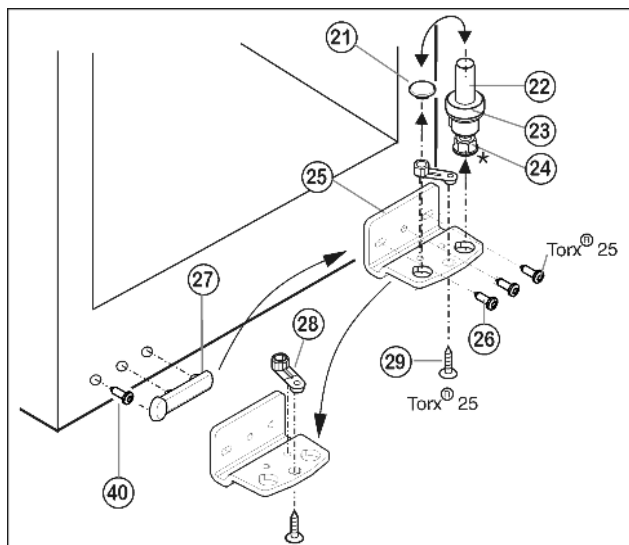
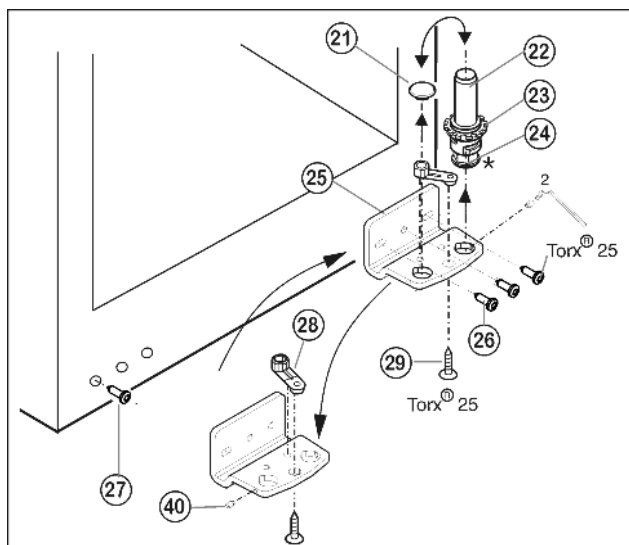

Fig. 5
Fig. 6
- ▶ Lift out the bearing pin Fig. 5 (22) together with washer Fig. 5 (23) and adjustable-height foot\* Fig. 5 (24).
- ▶ Lift off the stopper Fig. 5 (21).
- ▶ Unscrew Fig. 5 (26) the turn hinge Fig. 5 (25).
- ▶ Unscrew Fig. 5 (29) the bearing element Fig. 5 (28), transfer it to the opposite location hole of the turn hinge and screw it firmly into place.
- ▶ Carefully lift off the cover on the handle side Fig. 5 (27), undo the screw Fig. 6 (40) and transfer both to the opposite side.
- ▶ Screw the turn hinge Fig. 5 (25) firmly into place on the new hinge side, possibly using a cordless screwdriver (with 4 Nm).
- ▶ Re-insert the stopper Fig. 5 (21) into the other hole.
- ▶ Re-insert the bearing pin Fig. 5 (22) together with the washer and adjustable-height foot\*. In so doing, pay attention that the locating lug points backwards
- ▶ Using the accompanying Allen key, unscrew the threaded pin Fig. 6 (40) by about 1 turn.
- ▶ Turn and lift out the bearing pin Fig. 6 (22) together with the washer Fig. 6 (23) and adjustable-height foot\* Fig. 6 (24).
- ▶ Lift out the stopper Fig. 6 (21).
- ▶ Unscrew Fig. 6 (26) the turn hinge Fig. 6 (25).
- ▶ Fully unscrew the threaded pin Fig. 6 (40) and screw it in on the opposite side, at the turn hinge, until it is flush outside with the turn hinge.
- ▶ Unscrew Fig. 6 (29) the bearing element Fig. 6 (28) transfer it to the opposite location hole of the turn hinge and screw it firmly into place.
- ▶ Re-insert the stopper Fig. 6 (21) into the other hole.
- ▶ Undo the screw Fig. 6 (27) and transfer it to the opposite side.
- ▶ Screw the turn hinge Fig. 6 (25) firmly into place on the new hinge side, possibly using a cordless screwdriver (with 4 Nm).
- ▶ Re-insert the bearing pin Fig. 6 (22) together with the washer and adjustable-height foot\*.
- ▶ Tighten the threaded pin Fig. 6 (40).
- ▶ Place the door from above onto the lower bearing pin Fig. 6 (22).
- ▶ Align the door to the appliance housing by way of the two oblong holes in the bottom turn hinge Fig. 6 (25). To do so, unscrew the middle screw.